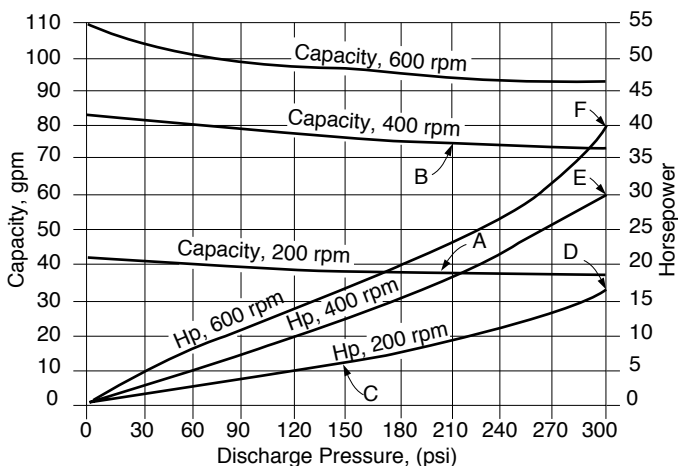

FIGURE 66. Pump Performance at Different Speeds with Viscosity Constant
- Viscosity also affects pump capacity, running speed, power requirements, and efficiency. Figure 66 indicates performance of a rotary pump at different speeds with viscosity kept constant.